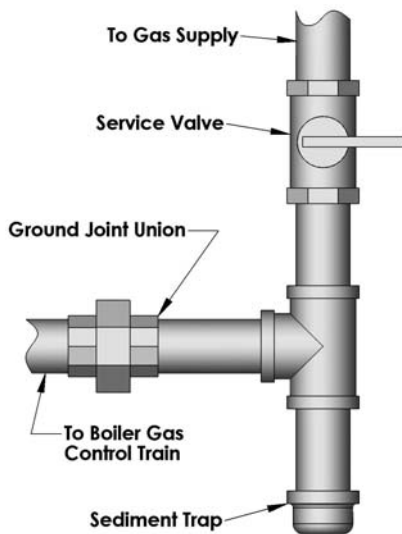

Figure 3.12: Gas Supply Connection to Boiler
- e) Install a Service Valve, Sediment Trap and Ground Joint Union at the supply connection to the Gas Control Train as shown in Figure 3.12. These components are to be supplied by the installing contractor and are not part of the boiler or burner. Install them in accordance with local codes or in the absence of such authority with the codes listed in paragraph 1.B.